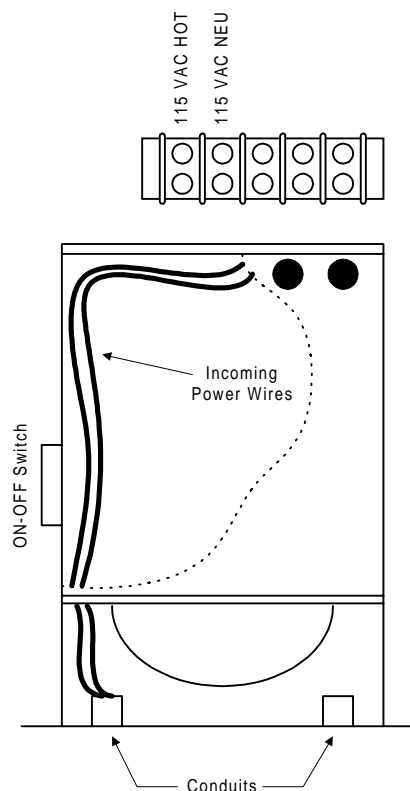

Figure 24
- Route incoming high voltage power through conduit and into the operator as shown in figure 24.